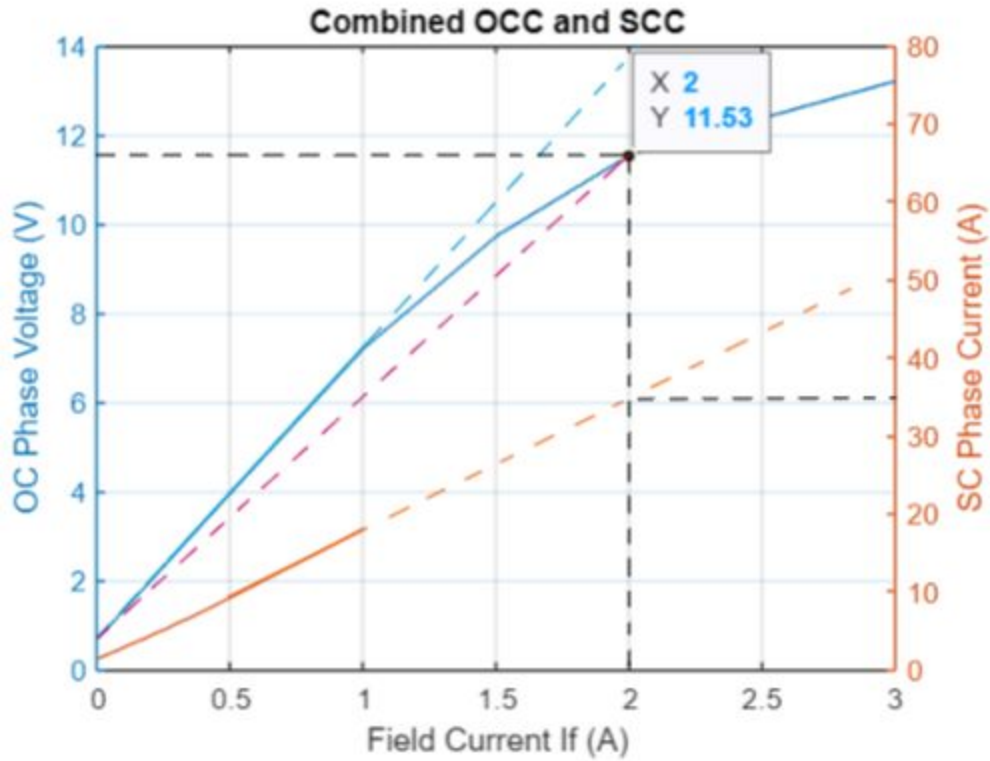

Figure 2.5-4: OCC and SCC Combined Plot
- From Figure 2.5-4: $Z_s = \frac{E_{f, rated}}{I'_s} = \frac{11.53}{34.54} = 0.3338 \, \Omega$